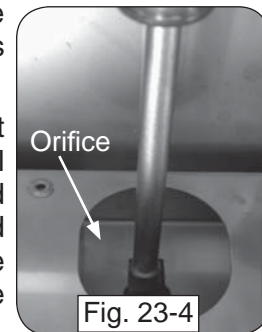

Fig. 23-4
5. Use a 3/8" hex nut driver to remove the exposed orifice (Fig. 23-4) and replace it with the correct orifice for the new gas. (See Table 1 at the beginning of this document for orifice sizes.)